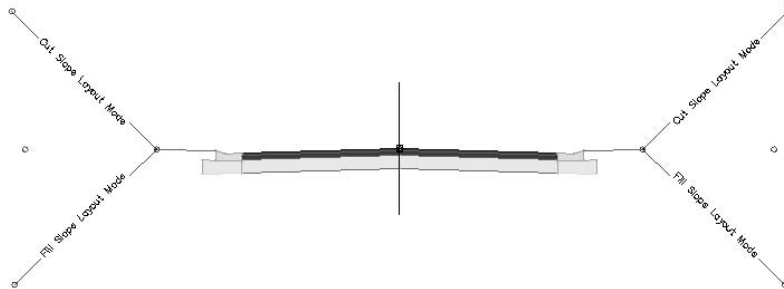

Figure 10.2
5. At the **Specify Location for Assembly:** prompt, pan over to the right of the site, below the profile, and select any location where there is room to work. An assembly will appear in the drawing. Press **Esc** to exit the command. The assembly will look like Figure 10.2.